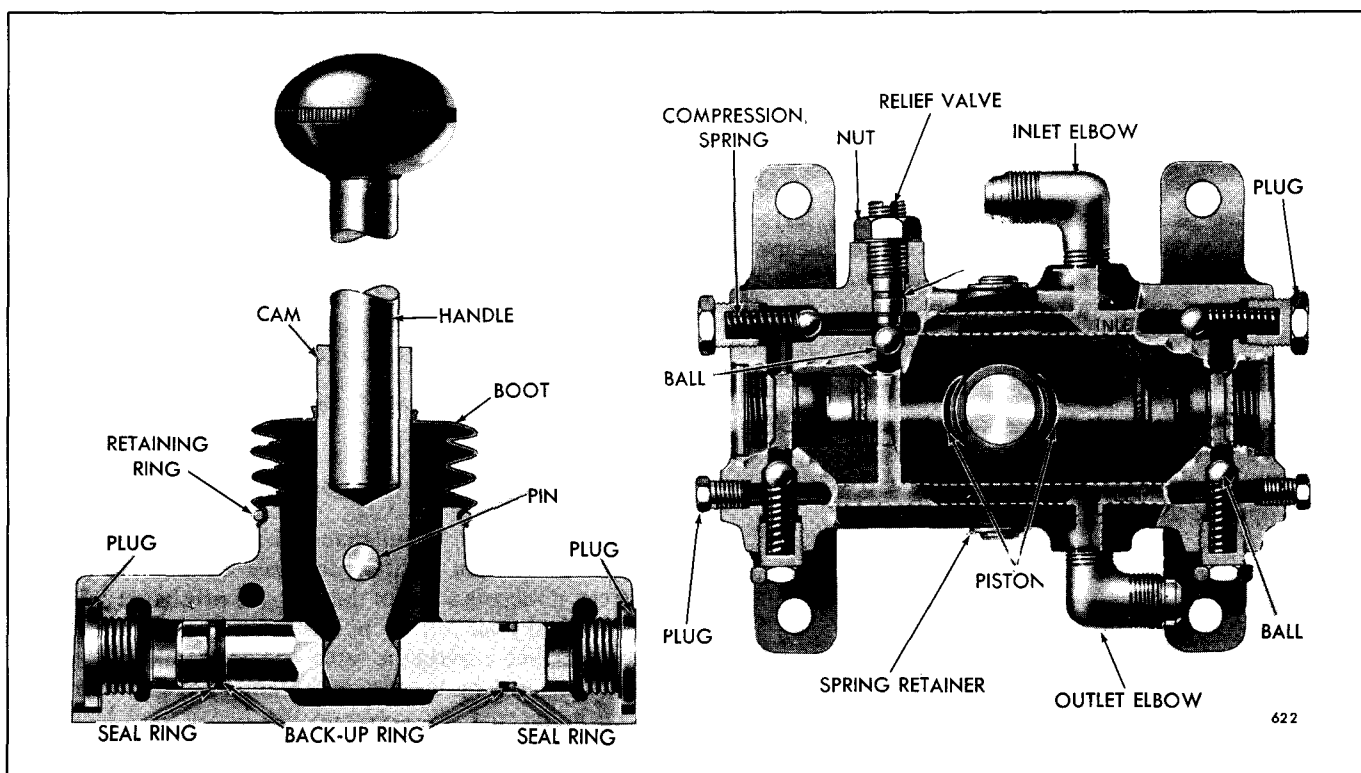

Fig. 19 – Cross Sections of Hydrostarter Hand Pump
The hand pump (Fig. 19) is a single piston double-acting positive displacement type. It is mounted in such a manner that the pumping action is never in a vertical direction and the handle clears all obstructions throughout its complete stroke. The handle may be removed and stored when the pump is not in use.
1. Release the pressure in the Hydrostarter system by opening the relief valve (Fig. 19) on the side of the pump approximately 1/2 turn.